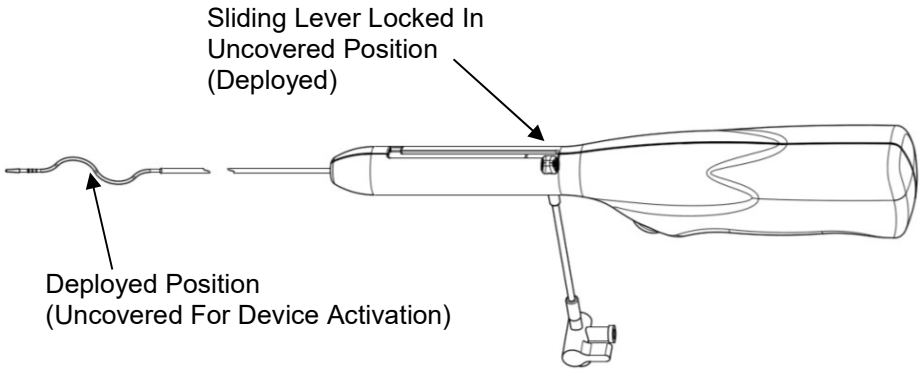

Figure 4
- Advance the flexible tip up to the distal most extent of the clot. Uncover the sinuous wire by unlocking, fully retracting the sliding lever and rotating the sliding lever until an audible “click” is heard (refer to Figure 4). Confirm device positioning within the treatment site via fluoroscopy. Press the ON/OFF switch to activate rotation.